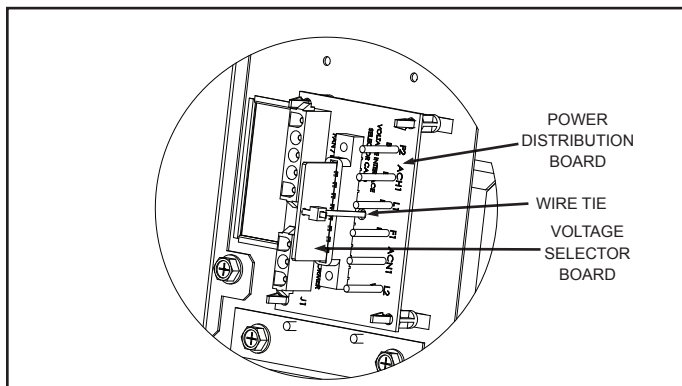

Figure 26. Power Distribution Board With Voltage Selector Board Installed for 240 VAC
2. Cut the plastic wire tie fastening the voltage selector board in place and discard it. Be careful not to abrade or damage any wiring or other components. Unplug the voltage selector board from the receptacle. See “Figure 26. Power Distribution Board With Voltage Selector Board Installed for 240 VAC” on page 24.